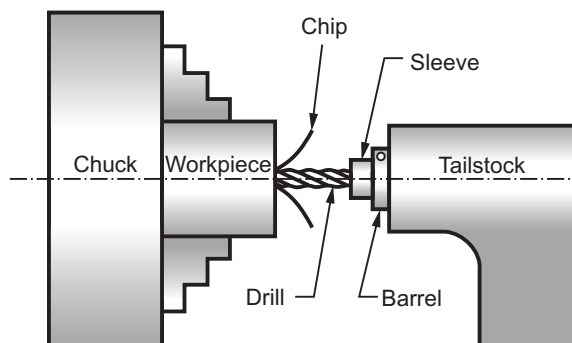

**Fig. 5.10 : Facing**
- It involves feeding of the tool perpendicular to the axis of rotation of the workpiece. Refer Fig. 5.10.